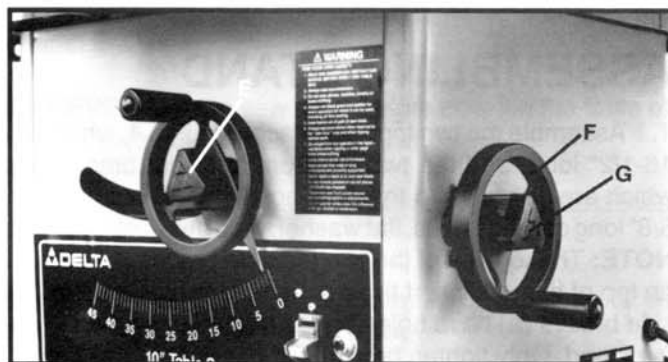

Fig. 7
2. Screw lock knob (E) Fig. 7, on end of raising screw shaft.
3. Assemble tilting screw handwheel (F) and lock knob (G) Fig. 7, to the blade tilting screw shaft in the same manner, as shown in Fig. 7.